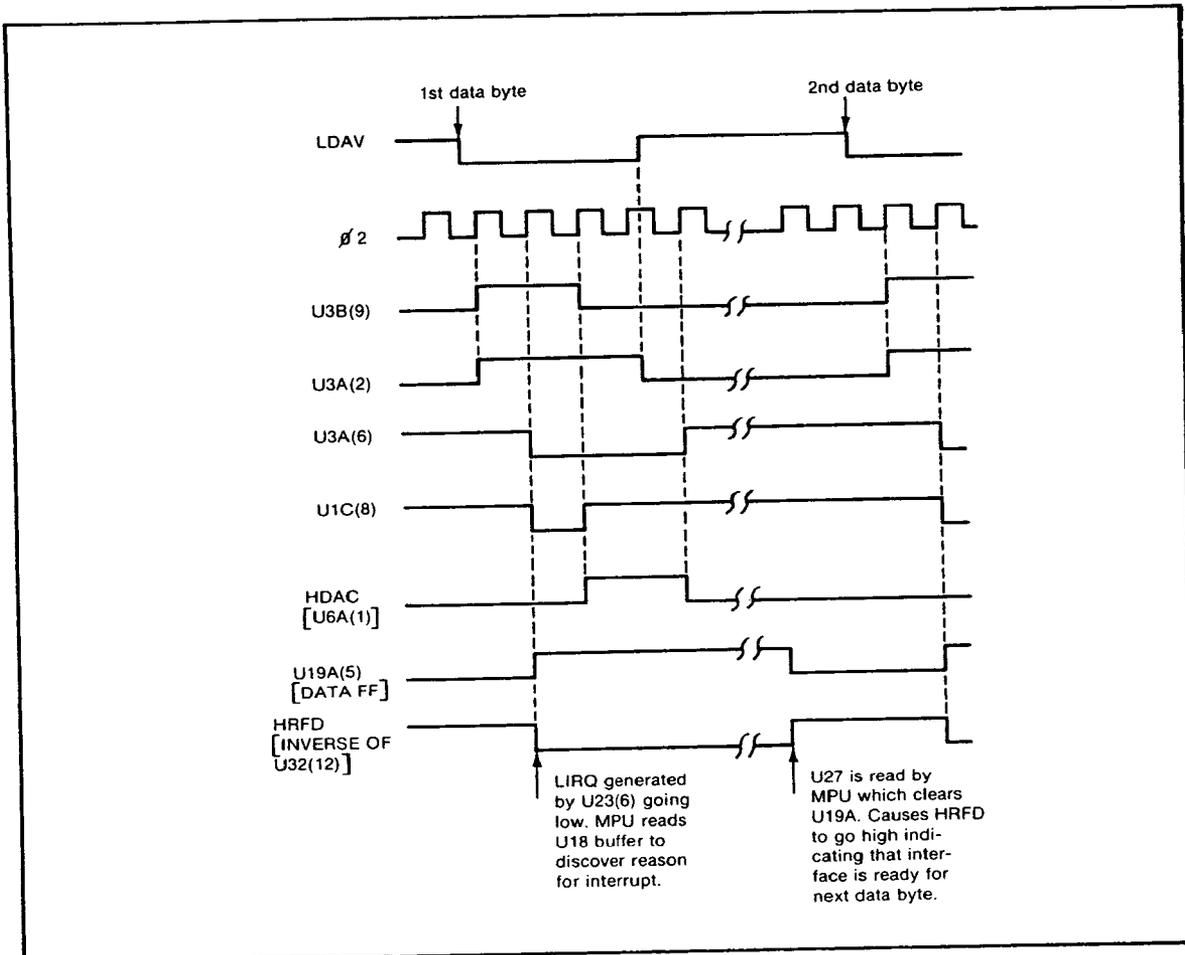

Figure 8-17. Acceptor Handshake Timing Diagram
8-334. A timing diagram of a typical acceptor handshake is shown in *Figure 8-17*. The talker places a data byte on the eight data lines and, after allowing for settling, pulls LDAH low to indicate to the listener (5343A in this case) that there is valid data on the data bus. The first positive transition of the  $\phi_2$  clock after LDAH goes low, clocks a high into flip-flop U3B(9). This causes the input to U3A(2) to go high. On the next clock, U3A(5) goes high and U3A(6) goes low. U3A(5) high and U3B(9) high cause U1C(8) to go low which enables ROM U23. When ROM U23 is enabled, Data flip-flop U19A(5) is set high which causes U32(12) to go high (HRFD goes low) and also clocks the data into U27. Simultaneously, LIRQ goes low to interrupt the microprocessor. The next  $\phi_2$  clock causes U3B(9) to return low, thus disabling U23. Since U3B(9) is low and U3A(6) is low, HDAC goes high, indicating to the talking device that the data has been accepted (read into U27) and may be removed from the data lines. The talker then removes the data from the bus and takes LDAH high to indicate that there is not valid data on the bus. U3A(2) goes low when LDAH goes high. On the next positive transition of  $\phi_2$ , the low at the input to U3A is clocked into the output, causing U3A(5) to go low and U3A(6) to go high. This causes HDAC to return low. After the